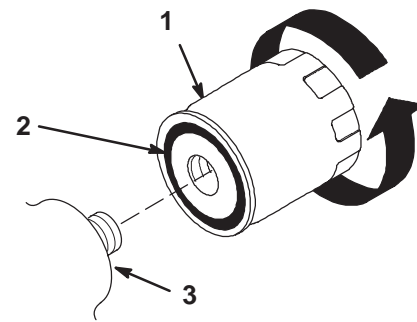

Figure 28
- Apply a thin coat hydraulic fluid to the rubber gasket on the replacement filter (Fig. 28).
- Install the replacement hydraulic filter onto the filter adapter. Tighten it clockwise until the rubber gasket contacts the filter adapter, then tighten the filter an additional 1/2 turn (Fig. 28).